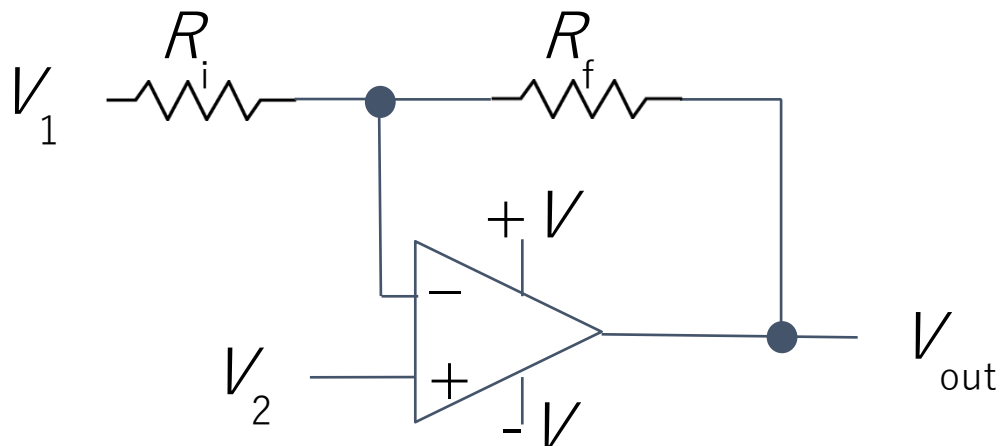

Fig. 1 Opamp gain and offset circuit
- In the following questions, you want to calibrate a linear sensor using the circuit in Fig. 1 so that its output range is 0 to 5V. Identify in each case: 1) which of V1 and V2 will be the input voltage and which the reference voltage; 2) the values of the ratio Rf/Ri and the reference voltage. If the calibration can't be done with this circuit, explain why.